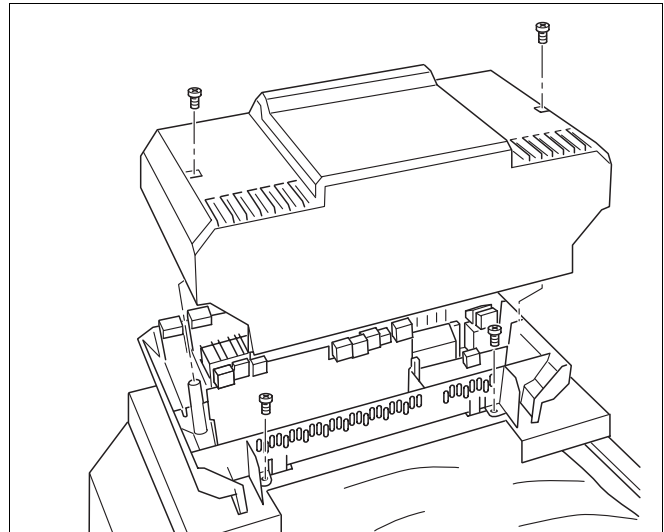

Fig. 17 Install the control panel
- Unscrew both self-tapping screws from the top out of the terminal cover and remove the cover (Fig. 17).
- Locate the control panel so that the insert hooks are inserted at the front into the oval holes, pull the control panel forward and then tilt it back, until both resilient hooks snap into place on the right and left side (arrows Fig. 17).
- Locate the terminal cover and re-fit using the self-tapping screws (Fig. 17).